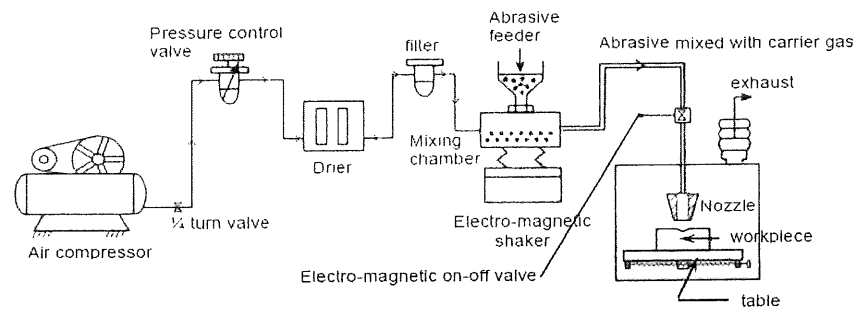

Figure 2: Schematic illustration of AJM.
- a) Abrasive jet machining is an alternative machining process for metal and non-metal materials. Based on Figure 2, **describe** how the material removal process takes place.